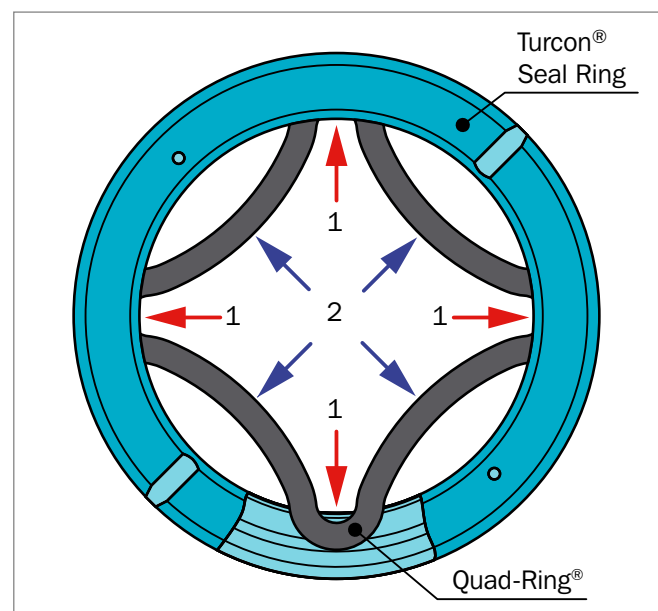

Figure 167: Insert sections of Quad-Ring® diagonally into the lubrication groove
- 2) Insert four small sections of the Quad-Ring® cord into the lubrication groove, as shown at the red arrows on Figure 167. Continue to insert sections in direction of the blue arrows, followed by more sections, until the entire cord is mounted.